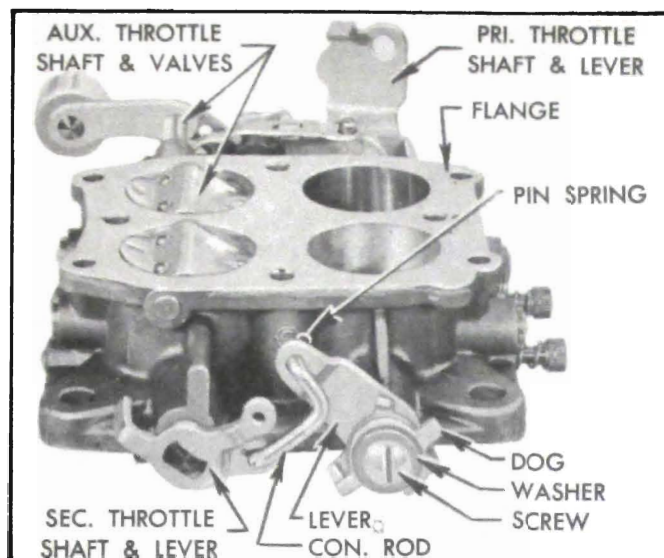

Figure 3-49—Throttle Parts on Body Flange
10. File burrs from staked ends of choke valve screws and remove choke valve. Rotate choke shaft to disengage piston from its cylinder, then remove shaft and piston. Remove piston pin and piston from link. See figure 3-49.
19. Remove pin spring and disconnect throttle connector rod from primary and secondary throttle shaft levers. See figure 3-49.
7. Install operating lever, dog, washer, and screw on primary throttle shaft, then install throttle connector rod and pin spring as shown in figure 3-49.